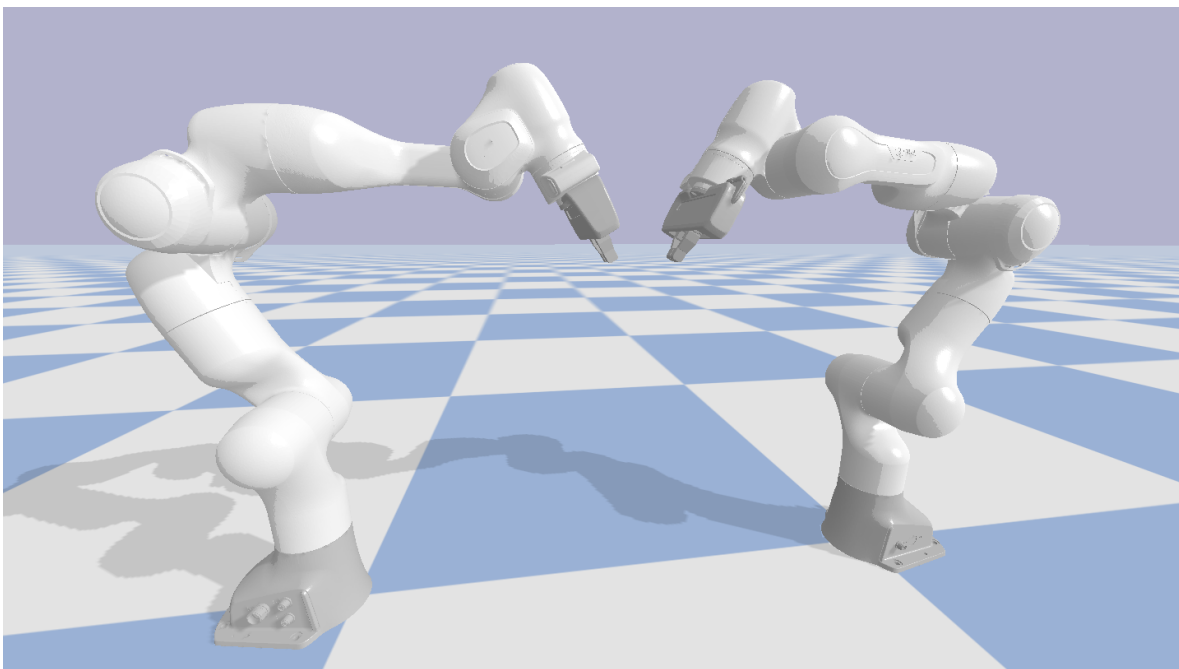

Figure 3: Robot configurations for grasping the object
2. The first phase foresees to move the tool frame of both manipulators to the grasping points, by implementing the *Tool move-to* equality task. Define the goal frames for each manipulator such that their origin corresponds to the grasping points. **HINT:** the position of the grasping points can be computed by knowing the origin of the object frame wO_o and the object length l_{obj} . The goal orientation of the tool frames is obtained by rotating the tool frames 30 deg around their y-axis; the manipulators should reach the configuration depicted in Figure 3.